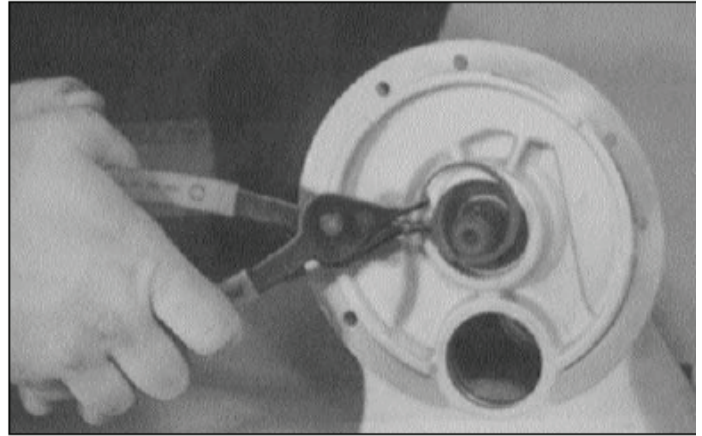

Figure 7-19. Input Shaft Bore Snap Ring
17. Remove snap ring (16) from input shaft bore (12). See Figure 7-19.